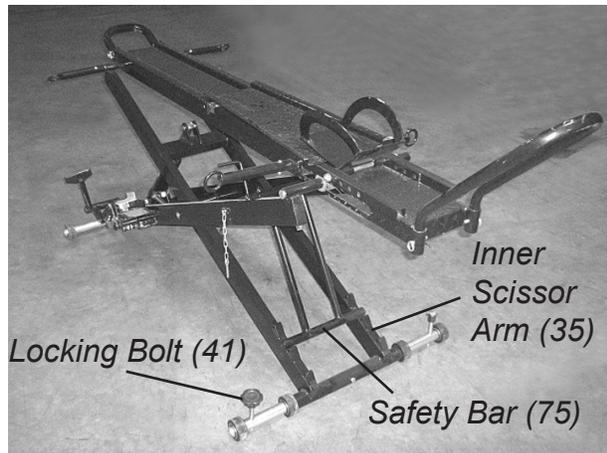

Figure 4
9. Before lifting any motorcycle, it must be securely fastened to the Lift using tie-down straps (not supplied) or other suitable method. Two Front Tie Down Brackets (13) and two Rear Tie Down Brackets (31) are built into the Lift for this purpose.
12. Before lifting the motorcycle, pull out the Safety Bar Lock Pin (40) to allow the Safety Bar (75) to rest on the Inner Scissor Arm (35).
13. To Lift the motorcycle, pump the Pump Pedal (56) repeatedly until the motorcycle is lifted to the desired height.
14. When the motorcycle is lifted, be sure that the Safety Bar (75) is slightly above one of the ramps of the Inner Scissor Arm (35).
15. Press the Load Pedal (69) until the Safety Bar (75) is fully engaged with the ramp of the Inner Scissor Arm (35). See *Figure 4*.